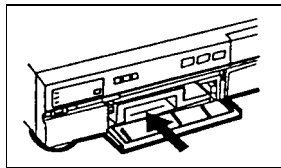

Figure 6-21. Installing the Paper Cassette
7. Reinstall the paper cassette (Figure 6-21) and close the cassette door.